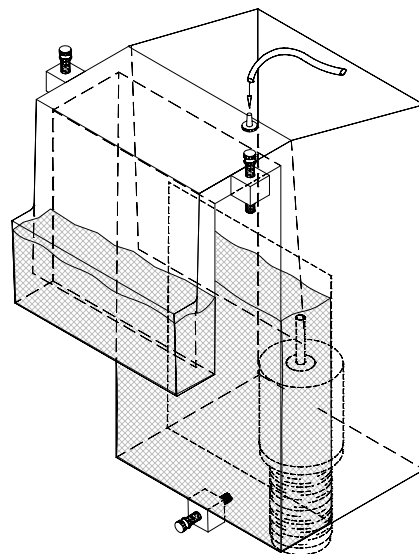

Fig. 2
7. *Using a container of water from your aquarium, fill the narrow chamber in the back of the overflow to the top. (FIG 2) To start and maintain the siphon overflow, draw the air out through the nipple on top of the overflow by one of the following methods:*